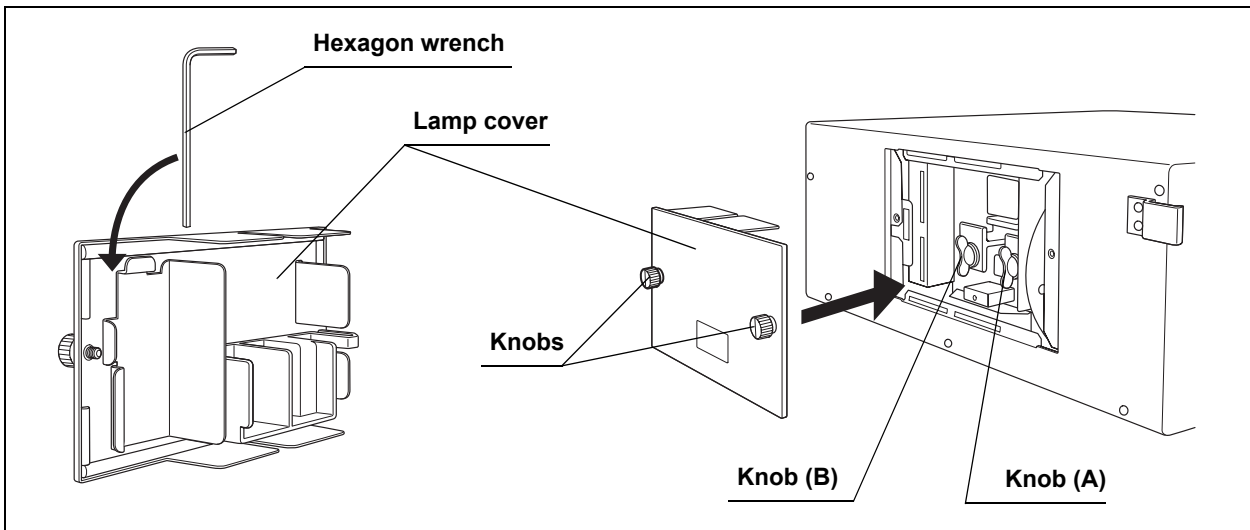

Figure 5.8
8. Turn the knob (B) clockwise by 90° from the horizontal position until it stops, while pushing the knob.
9. Turn the knob (A) clockwise by 90° from the horizontal position until it stops, while pushing the knob.
10. Confirm that the heat sinks are attached firmly by pulling the knobs (A) and (B).
11. Store the hexagon wrench back on the rear of the lamp cover (see Figure 5.8).